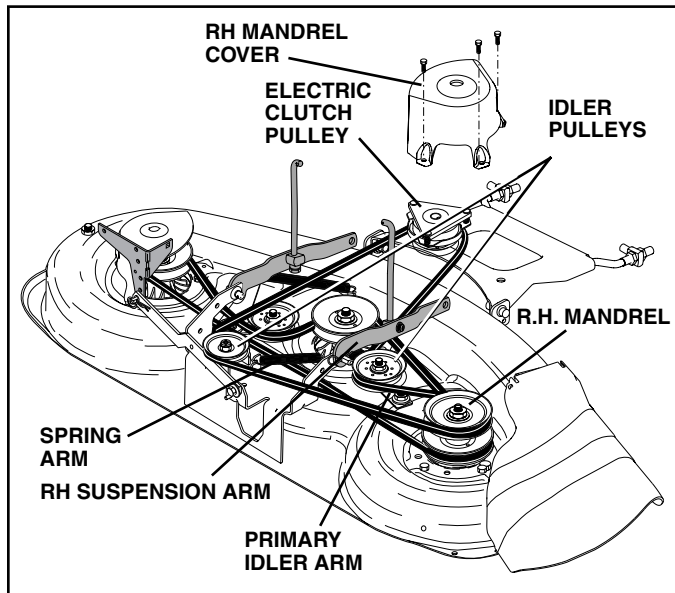

FIG. 23
**MOWER DRIVE BELT REMOVAL** (See Fig. 23)
**MOWER DRIVE BELT INSTALLATION** (See Fig. 23)